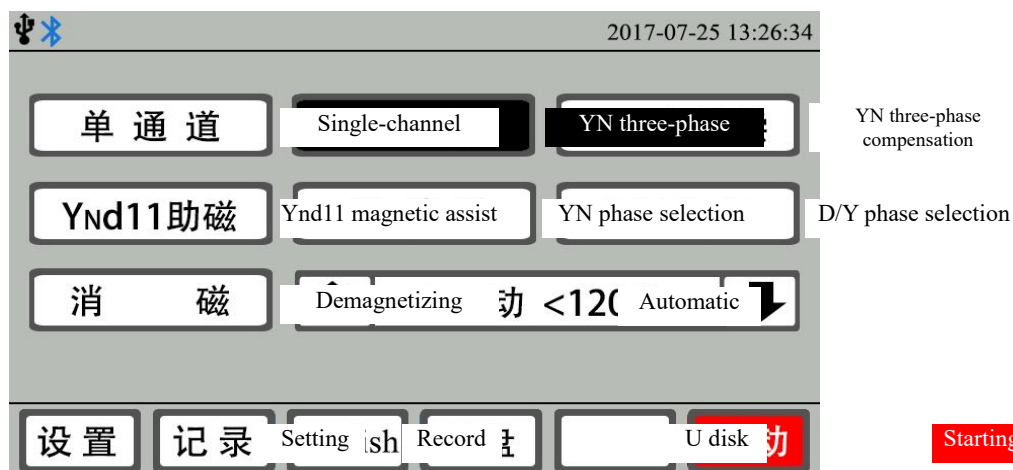

Figure 7
The Company's LOGO interface will be displayed on the screen. After it stays for about 3 seconds, it will be automatically skipped. Then enter the main interface for option setting, as shown in Figure 7:
2. Measurement mode selection: the interface shown in Figure 7 is displayed on the screen. Here the needed measurement mode can be selected by touching the test mode option.
3. Test current selection: the interface shown in Figure 7 is displayed on the display screen. At this time, you can select the desired measurement current by touching the current selection arrow keys. Each time of touching, the display screen will display the corresponding test current and the maximum test resistance at the corresponding current circularly. (On the premise of satisfying the resistance test range, a large current shall be used as much as possible, but the rated power of the test product shall also be considered. The test at the power exceeding the rated power of the test product can cause damage to the test product. Test product high-temperature also has some influence on test data, so various factors shall be considered comprehensively.)
5. Parameter setting: the interface shown in Figure 7 is displayed on the screen. At this time, you can touch the "Set" button to enter the parameter setting interface, as shown in Figure 8. In this interface, you can set the test product temperature, test product conversion temperature, data stabilization judgment time interval, test product material, communication baud rate, test product number, perpetual calendar time, etc.